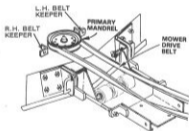

FIGURE 38
7. Remove L.H. & R.H. Belt Keeper (Fig. 38) from Primary Mandrel. Roll Mower Drive Belt over Primary Mandrel.